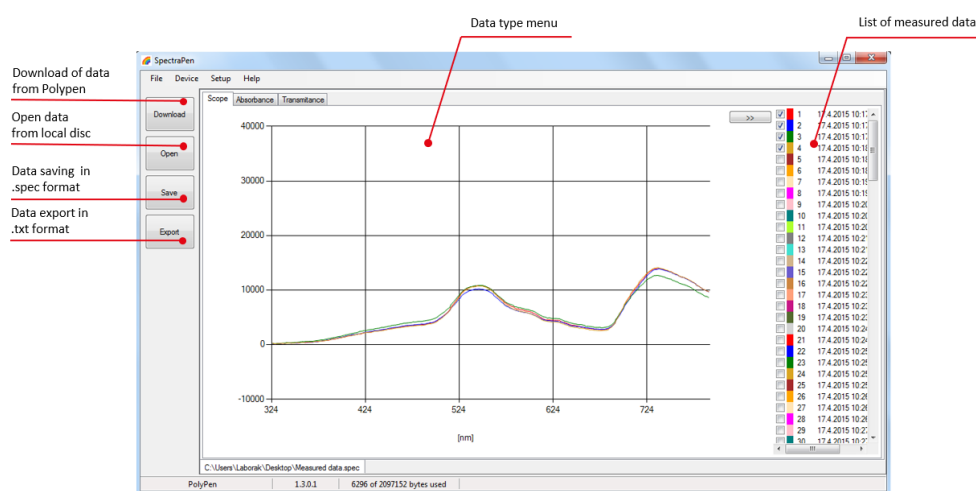

Fig. 18 Scope spectra
6. The data type menu has 3 options (Fig. 18): Absorbance, Transmittance and Scope. *Scope* displays intensities of reflected light with dark current subtracted. For spectrally calibrated reflectance data open the *Transmittance* window.
7. Select measurements displayed in the graph by marking and unmarking selection checkboxes in the list of measured data (Fig. 18).